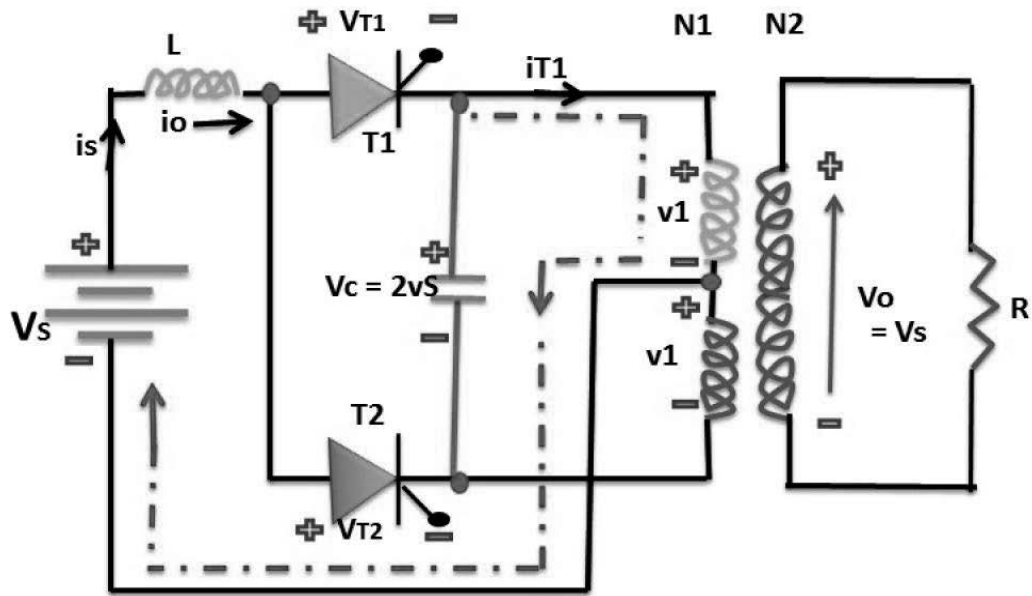

Fig. 11.1 Parallel inverter
1. Make the circuit connection as per the circuit diagram shown in Fig. 11.1.